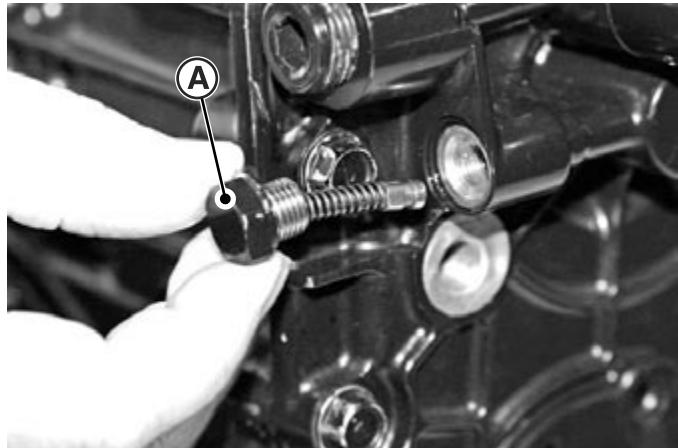

Fig. 12, Relief Valve Plug
1. Remove relief valve plug. (Fig. 12)
2. Install relief valve plug (A) and tighten to 25 N·m (19 lbft).